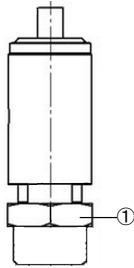
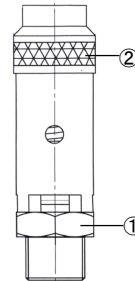

Fig. 21: 1/4" connection safety valve
Fig. 22: 1/2" connection safety valve
2. Open the safety valve for a few seconds by turning the knurled nut (Fig. 22 on page 48) counterclockwise. During this process, the closure of the safety valve opens, whereby the air must escape.
1. Attach an open end spanner to the spanner flat (Fig. 21 on page 48 and Fig. 22 on page 48) and unscrew the safety valve by turning counter-clockwise.